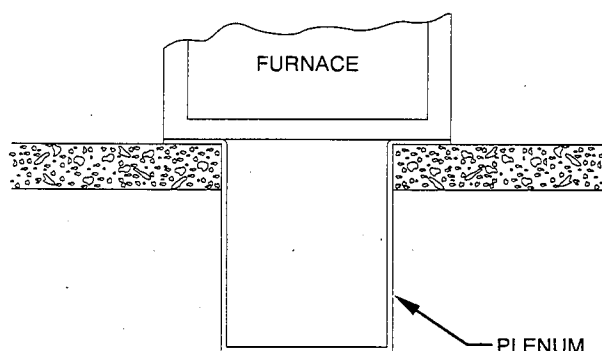

Fig. 5—Furnace Installed on a Concrete Slab (Non-Garage Installation)
2. Install plenum and furnace as shown in Fig. 5.